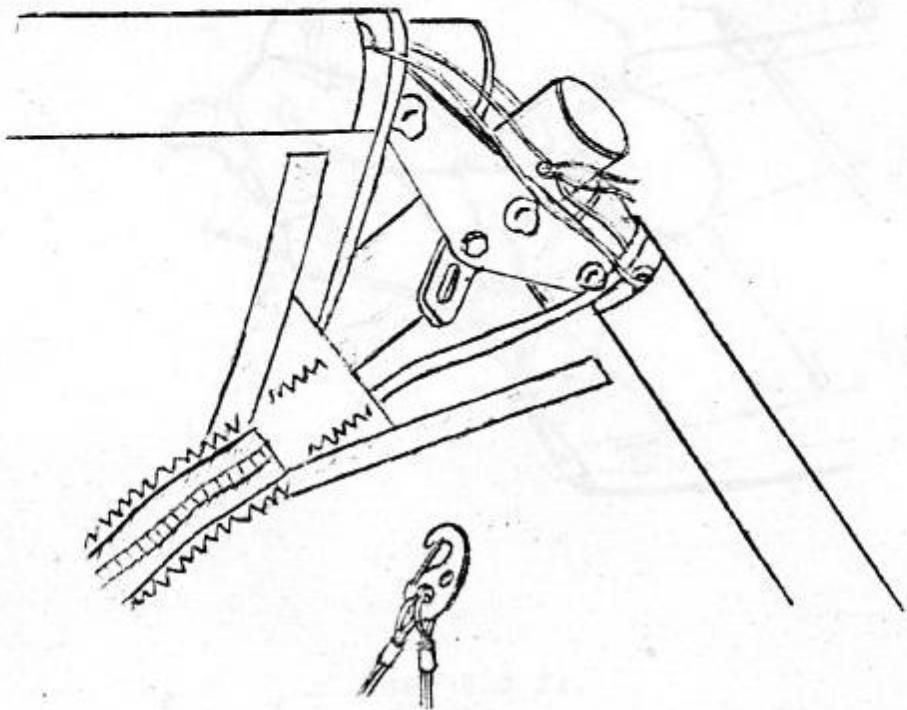

Fig. 3.2.22.
12. Make the glider to sit as level as possible so that neither wing tip is resting hard on the ground and the bottom rear wires are completely tensioned. Secure the hook of the bottom wires to the lug on the nose junction (Fig. 3.2.22, 3.2.23).